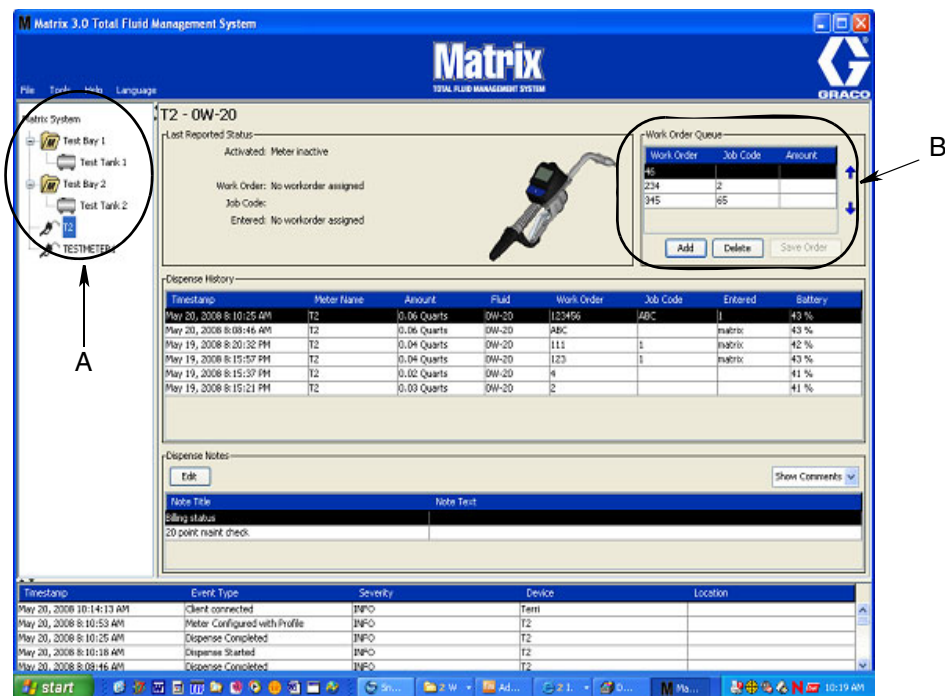

FIG. 214
1. In the System Administrator Defined Groups area of the Matrix Main Screen (A), select the meter you are sending the Work Order to (FIG. 214).